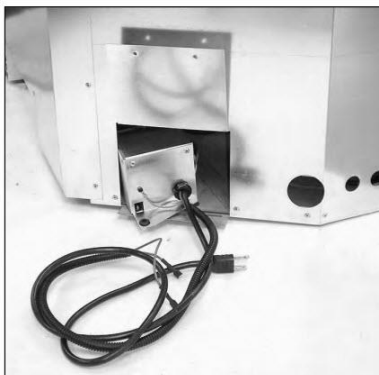

Fig. 1
- a. The fan can be installed through the side of the fireplace (**Fig. 1**).